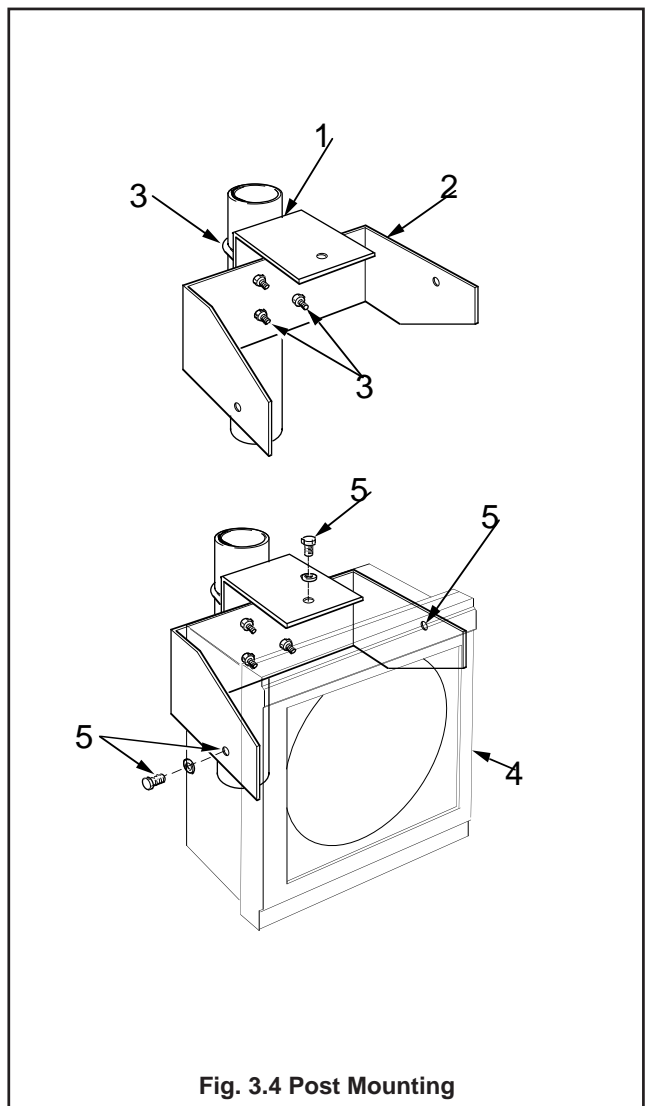

Fig. 3.4 Post Mounting
3.2.4 Post Mounting – Fig. 3.4